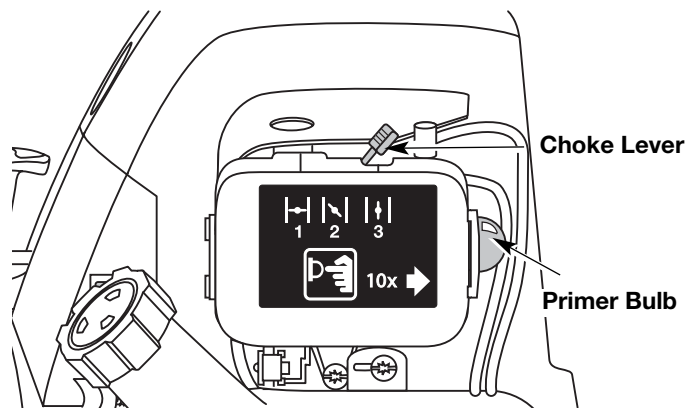

Fig. 21
4. Fully press and release the primer bulb 10 times, slowly. Some amount of fuel **should be visible in the primer bulb** and fuel lines (Fig. 21). If you can't see fuel in the bulb, press and release the bulb as many times as it takes before you can see fuel in it.
5. Place the choke lever in Position 1 (Fig. 21).